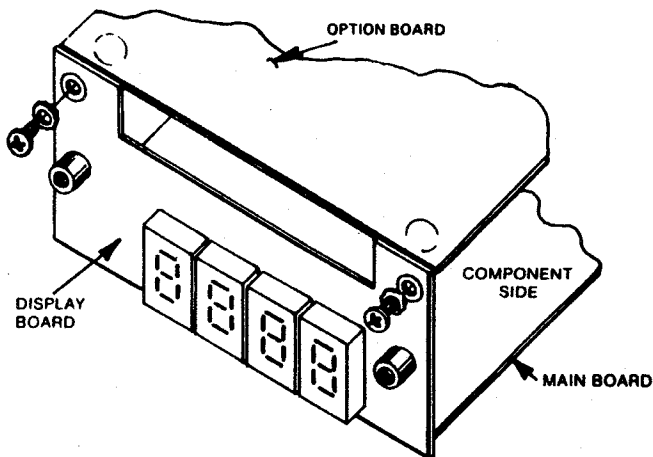

FIGURE 2-7. INSTALLING OPTION BOARD ON DISPLAY BOARD
g. Attach PCB option board to display board with two screws and lockwashers included in kit as shown in Figure 2-7.